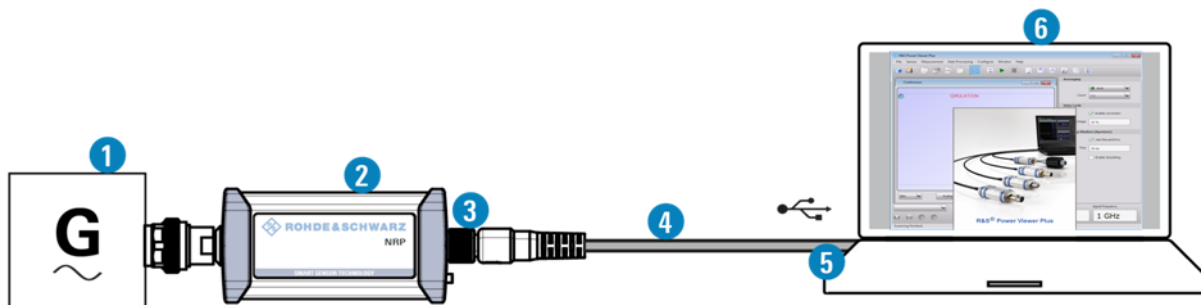

Figure 7-1: Configuration with the R&S Power Viewer Plus
1. Connect the cables as shown in Figure 7-1.